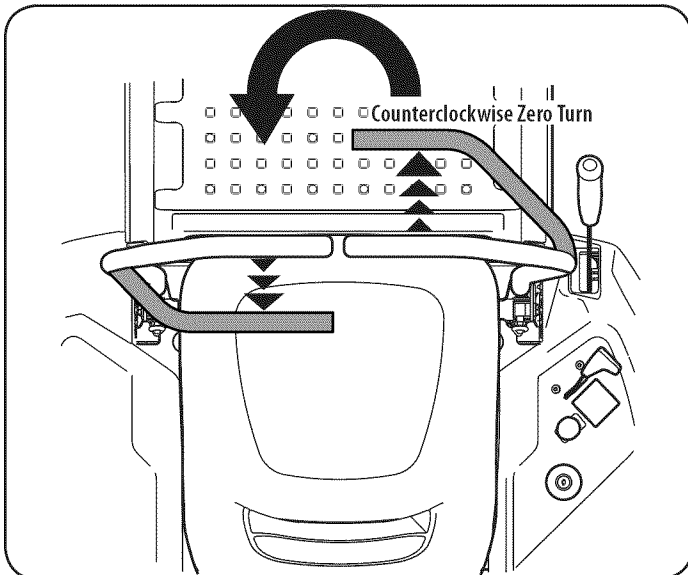

Figure 20
3. To turn counterclockwise, move the right control lever forward while simultaneously moving the left control lever rearward. See Figure 20.